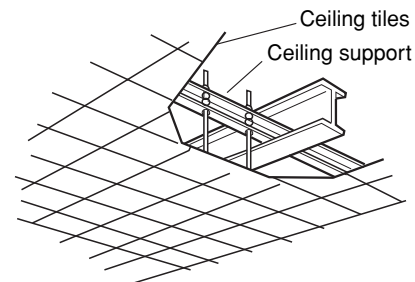

Fig. 3-32
- Use existing ceiling supports or construct a suitable support as shown in Fig. 3-32.